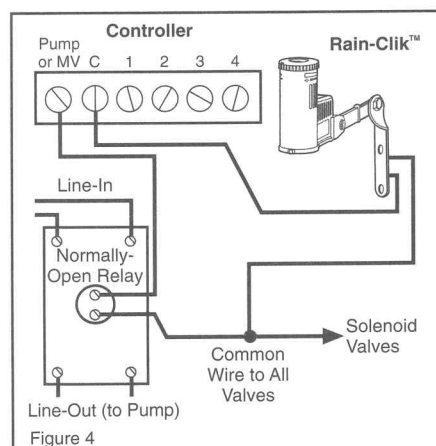

Figure 4
B. 24 Volt Solenoid Valves with Booster Pump (See Figure 4).